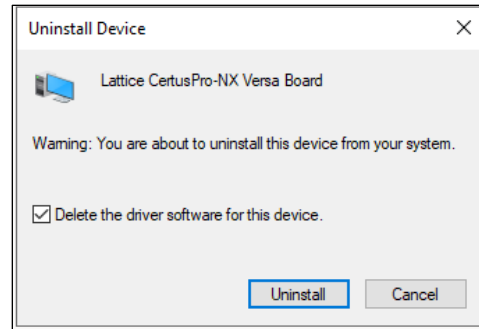

Figure 5.51. Uninstall Device Dialog Box
3. Checked the option **Delete the driver software for this device** and click on **Uninstall** as shown in Figure 5.51.